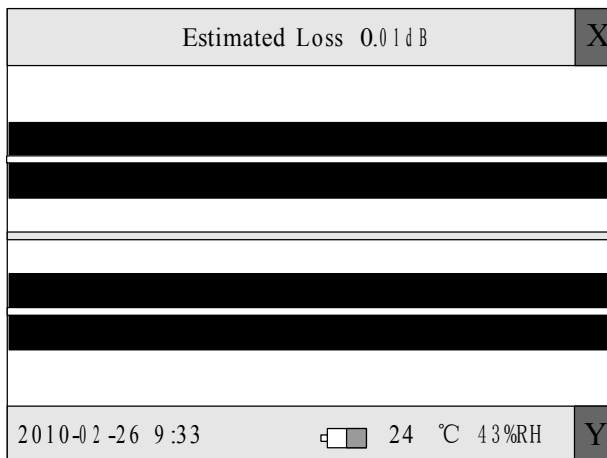
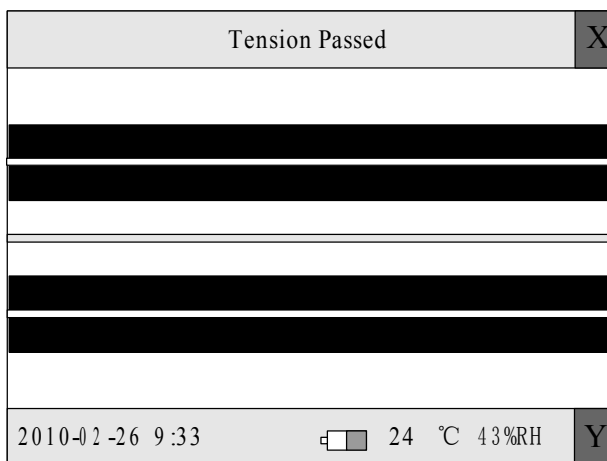

Figure 7-7
Figure 7-8
- (1) Do the same steps as in section 7.6.1: (1), (2), (3), (4), (5), (6), (7).
- (2) Close the shield and the splicer will exercise Clean, Gap, Align, Fusion and Tension Test functions automatically. The result will be displayed on the screen as Figure 7-7 and Figure 7-8.